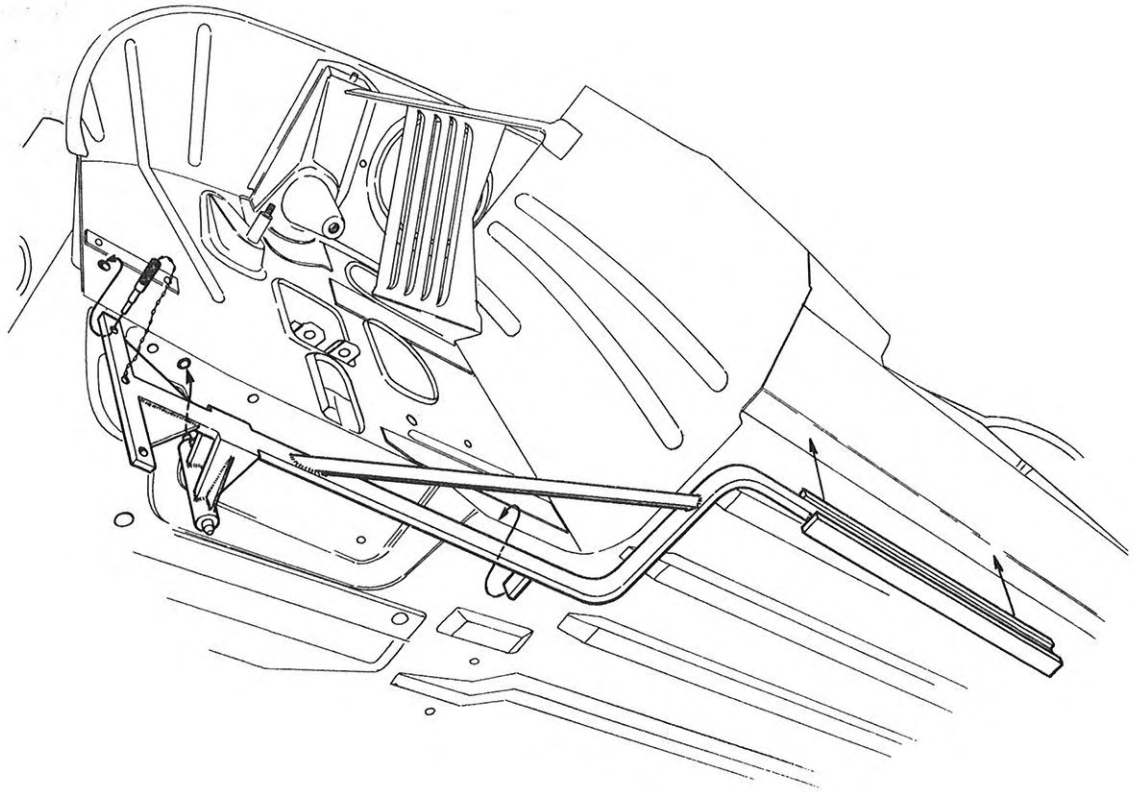

Fig. 11. Aligning of front floor. Tool Saab 93-151
11. Fit tool Saab 93-151. Attach tool along underside of door sill with clamps or the like and fit it at the front into the rear hole for the stabilizer bearing in the floor plate and insert the pin into the hole in the wheel housing wall under the two holes for the bumper support, see Fig. 11. Using a jack, adjust wheel housing wall and floor plate to correct height.